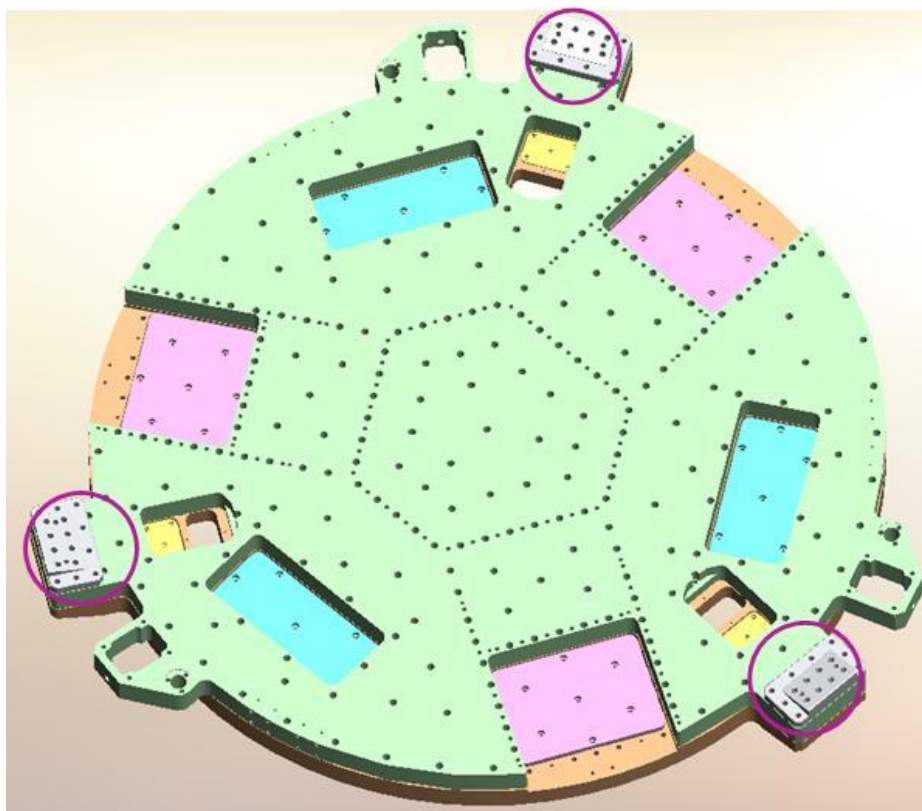
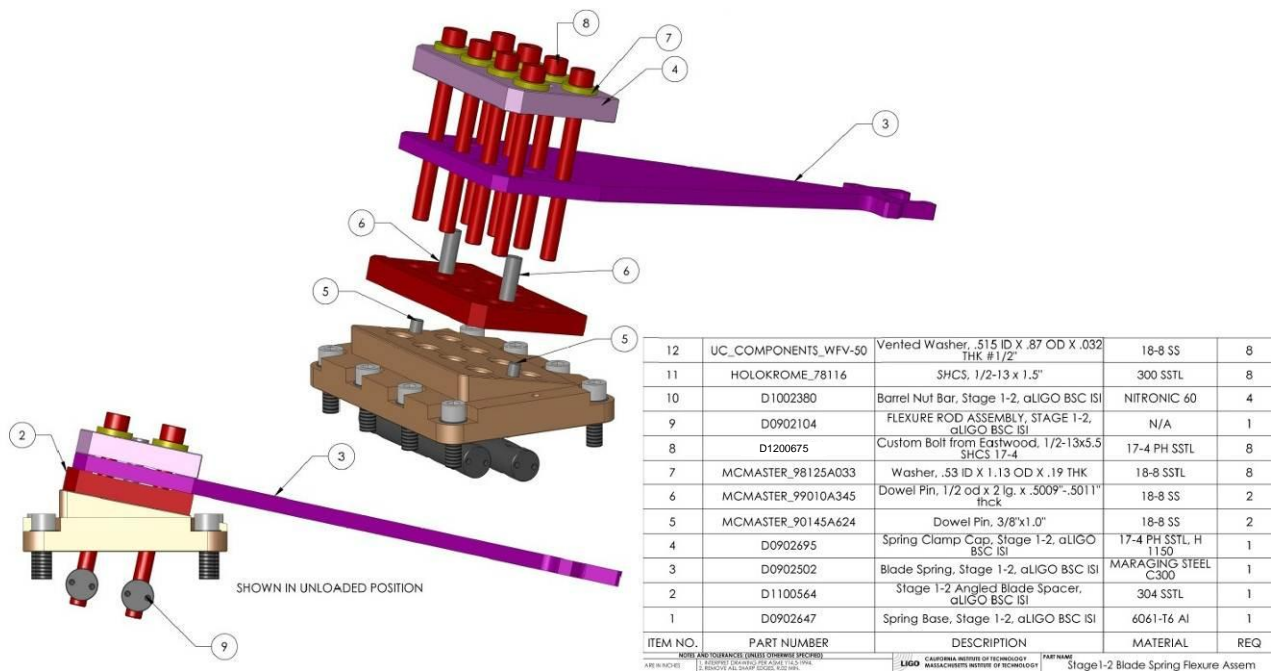

Figure 94: Stage 2 Spring Base Location on D0901517 Cut Out Optical Table
Figure 95: D0902485 Stage 1-2 Blade Assembly Exploded View
(2) 1/2" x 2" dowel pins – MSC 67602128
- Press (2) 3/8" x 1.0" Dowel Pins into each D0902647 Stage 1-2 Spring Base as shown on Figure 95.
- Place D0902647 Stage 1-2 Spring Base on the Optical Table as shown on Figure 94, the position is determined by the (2) dowel pins inserted previously in the Optical Table. Make sure pins seat properly into mating hole and slot.
- Insert and snug (8) 1/2"-13 x 1.5" SHCS.
- Place D1100564 Stage 1-2 Angled Blade Spacer on D0902647 Stage 1-2 Spring Base. Its position is determined by (2) 3/8" x 1" dowel pins. Make sure pins seat properly into mating hole and slot.
- Insert (2) 1/2" x 2" dowel pins in D1100564 Stage 1-2 Angled Blade Spacer as shown on Figure 95.
- Place D0902502 Stage 1-2 Spring Blade on D1100564 Stage 1-2 Angled Blade Spacer. Its location is determined by (2) 1/2" x 2" dowel pins previously inserted in D1100564.